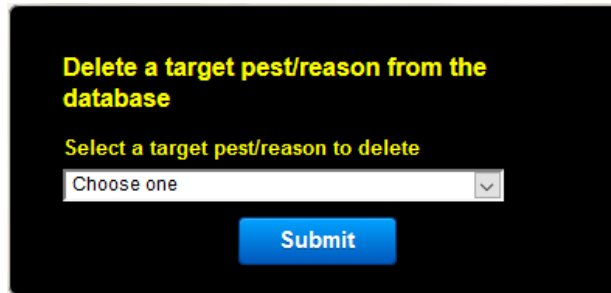

Fig. 22
1. This form allows you to delete a Target, Pest or Reason. (See fig 22)